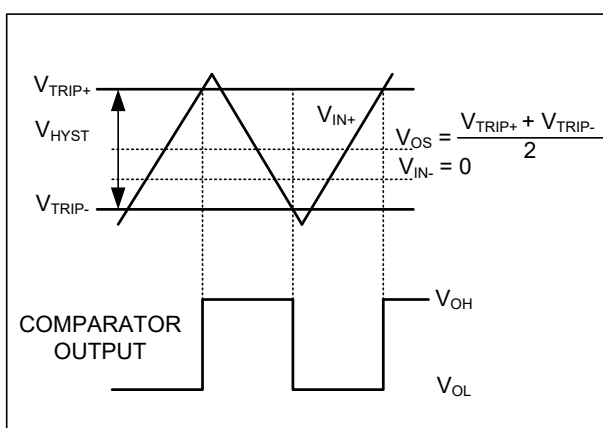

Figure 1. Input and Output Waveform,
3. V_{OS} is defined as the center of the input-referred hysteresis zone. See Figure 1.
4. The input-referred trip points are the extremities of the differential input voltage required to make the comparator output change state. The difference between the upper and lower trip points is equal to the width of the input-referred hysteresis zone. See Figure 1.
The hysteresis in a comparator creates two trip points: one for the rising input voltage and one for the falling input voltage (Figure 1). The difference between the trip points is the hysteresis. The average of the trip points is the offset voltage. When the comparator's input voltages are equal, the hysteresis effectively causes one comparator input voltage to move quickly past the other, thus taking the input out of the region where oscillation occurs. Standard comparators require hysteresis to be added with external resistors. The SGM8745's fixed internal hysteresis eliminates these resistors. To increase hysteresis and noise margin even more, add positive feedback with two resistors as a voltage divider from the output to the non-inverting input.
Figure 1 illustrates the case where $IN-$ is fixed and $IN+$ is varied. If the inputs were reversed, the figure would look the same, except the output would be inverted.